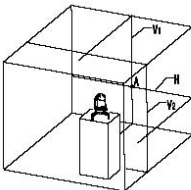

Fig. 11-1
3. Rotate the instrument horizontally to have V1 face against the wall, and mark its intersection with H as point A (Fig. 11-1).